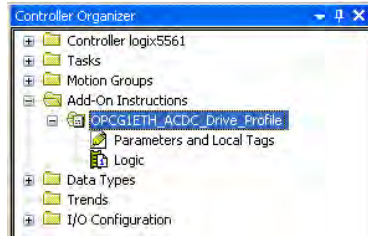

Figure 89: AC/DC Drive Profile Add-On Instruction
- 2) Right click on "Add-On Instructions" in the controller organizer view and select "Import.Add-On Instruction". Browse and import the AC/DC drive profile add-on instruction. Refer to Figure 89.